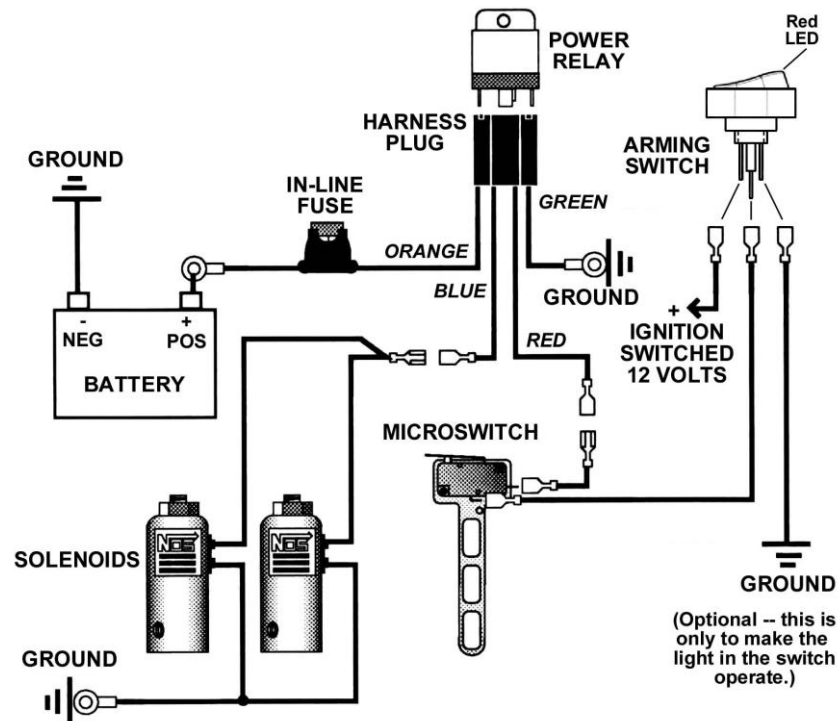

Figure 3 Electric Wiring Schematic
- Push the throttle wide open while the engine is off. Each solenoid should make a clicking noise if it is cycling correctly. If no noise is heard, check all the wiring connections and the wiring schematic in Figure 3.